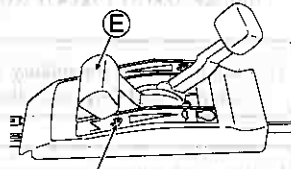

Fig. 16.
2 Set Throttle lever (E) to "STOP" to start mowing. (See Fig. 16.)